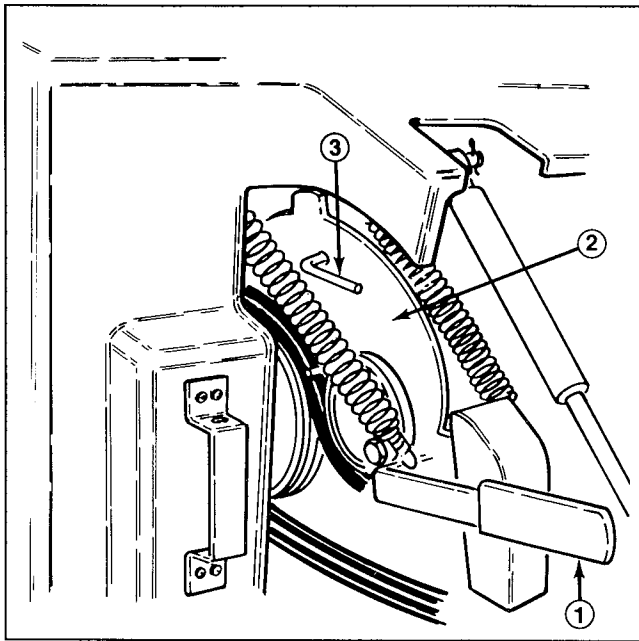

Figure 25
C. Push down on override lever (Fig. 25) until holes in lever bracket and coring bracket are aligned, then insert pin thru holes.
2. Push down on override lever until holes in lever bracket and coring head are aligned, then insert pin thru holes (Fig. 25).